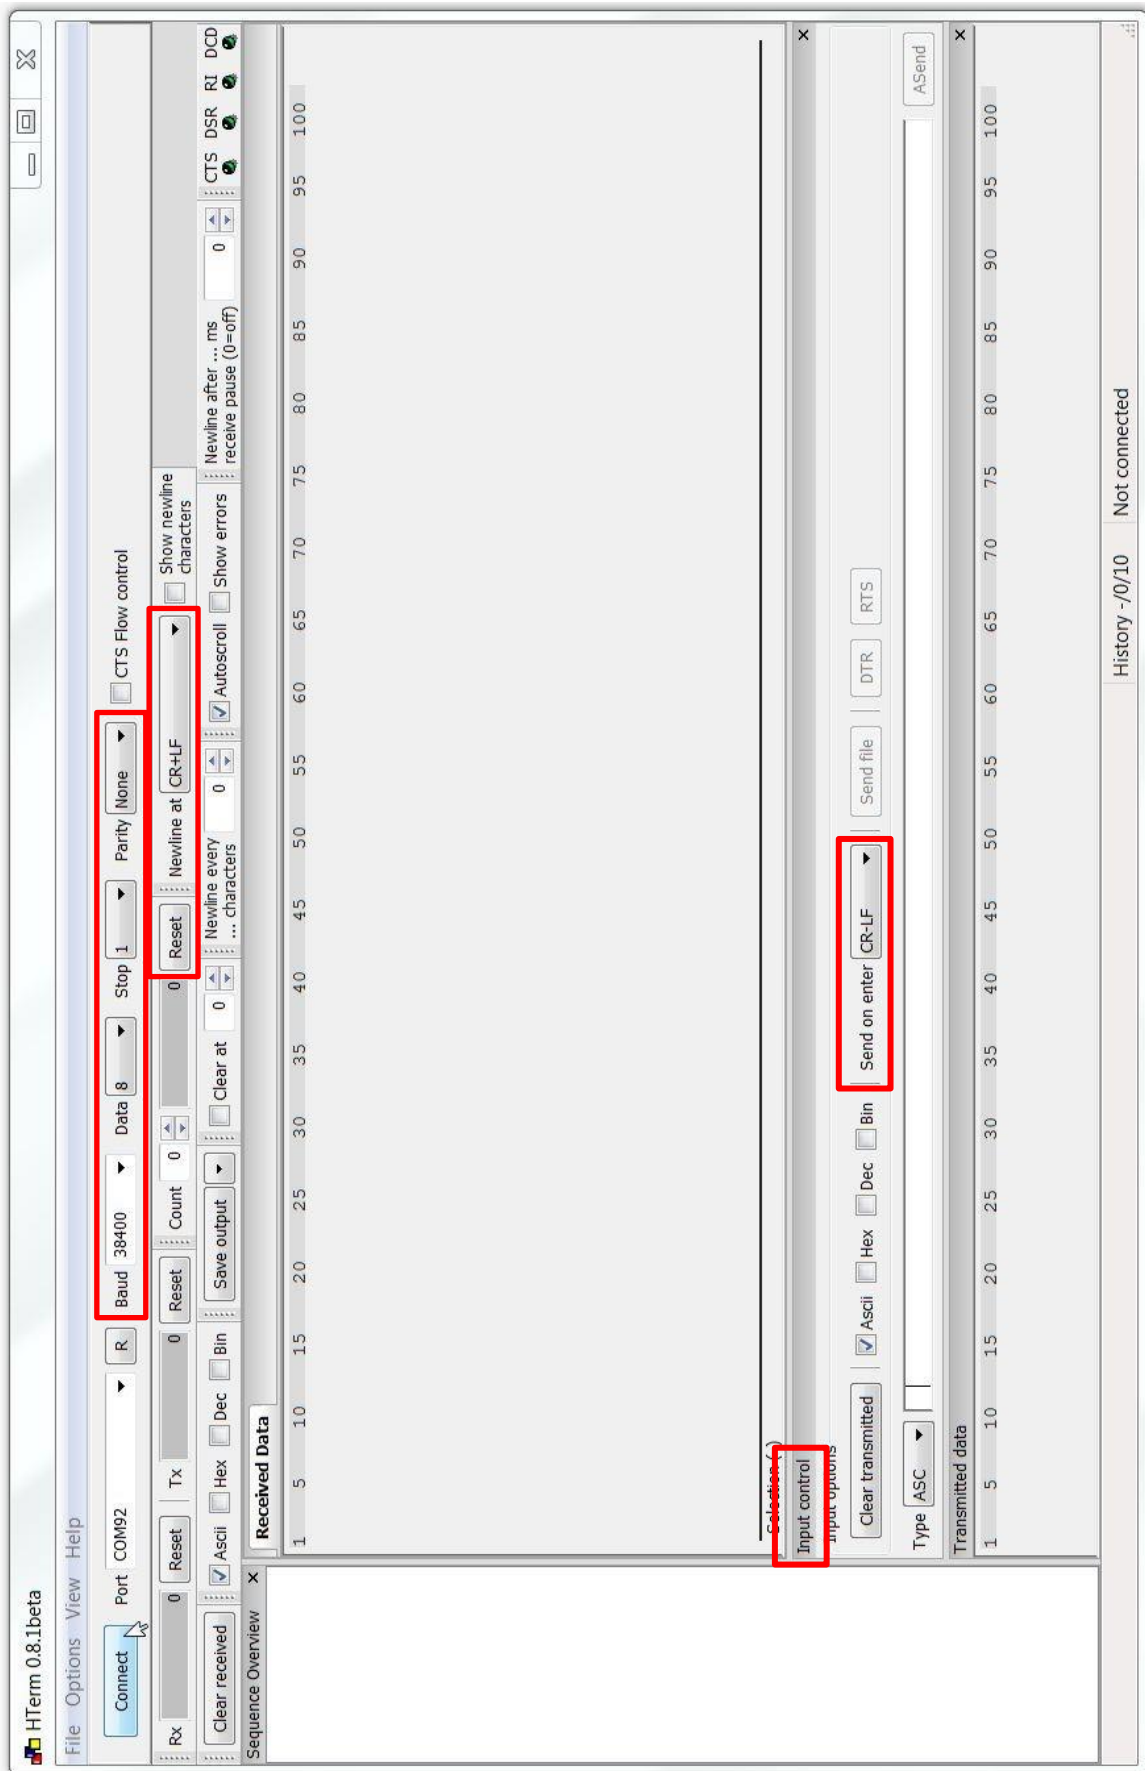

Fig. 2.1 Connection parameters for HTerm (Windows)
- 6) Choose the appropriate COM-Port and set the connection parameters listed in **Tab. 2.1** (independent of software used). In *HTerm* you will find it in the drop-down list of the main window, see **Fig 2.1**.
- 7) Click "Connect" in the upper left corner. Your "Received Data" window should be blank. (Fig. 2.1)
- 8) To unlock access, type the following command in the command line of the "Input Control" window (lower left in Fig. 2.1) and press Enter.